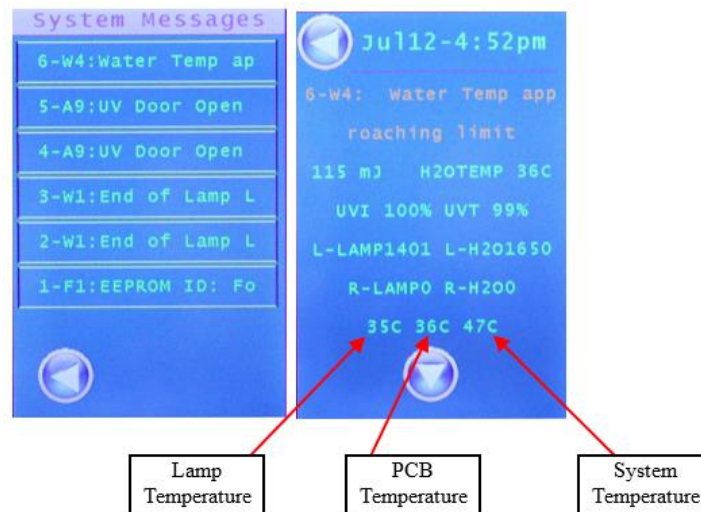

Figure 7-3
2. Use a slotted screwdriver to pry the lamps up between lamp base and ceramic socket, see Figure 7.3